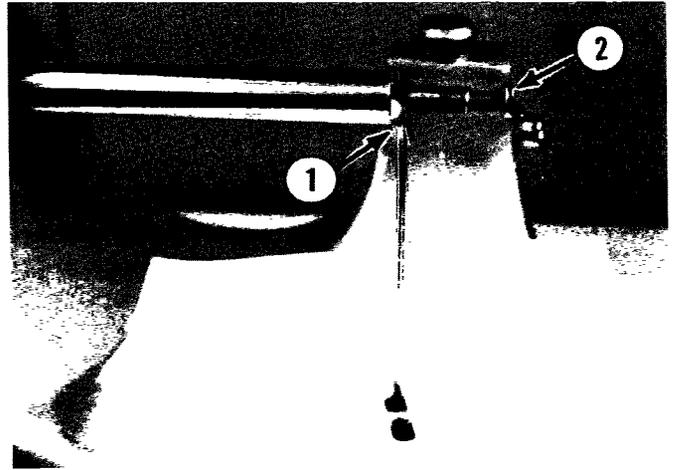

Fig. 2-3
- (4) Place a wrench on the knife shaft (1, Fig. 2-3).
- (5) Place another wrench on the insert (2, Fig. 2-3) and turn counterclockwise to remove.